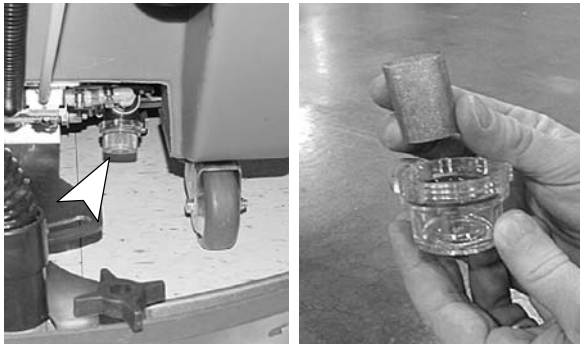

FIG. 36
4. Remove inline strainer filter and rinse out. Before removing filter, be certain solution tank is empty. Filter is located under machine at rear (Figure 36).